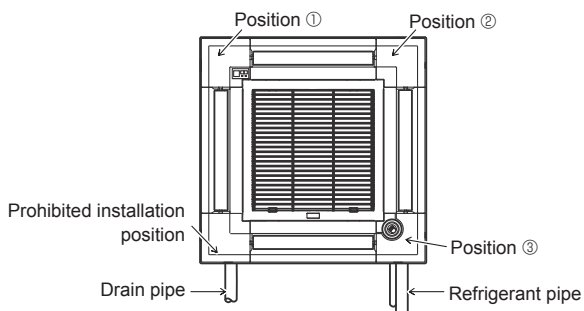

Fig. 9-11
The signal receiver corner panel can not be installed on the drain pipe side for the main unit. (Refer to Fig. 9-11)
- The i-see Sensor corner panel should be fixed onto the grille (1) with screw (3).
- \* If the position of the i-see Sensor was changed from default position (position ①) to the other position, change the function settings. (Refer to page 13 and Fig. 9-11)
- The i-see Sensor corner panel can not be installed on the drain pipe side for the main unit. (Refer to Fig. 9-11)